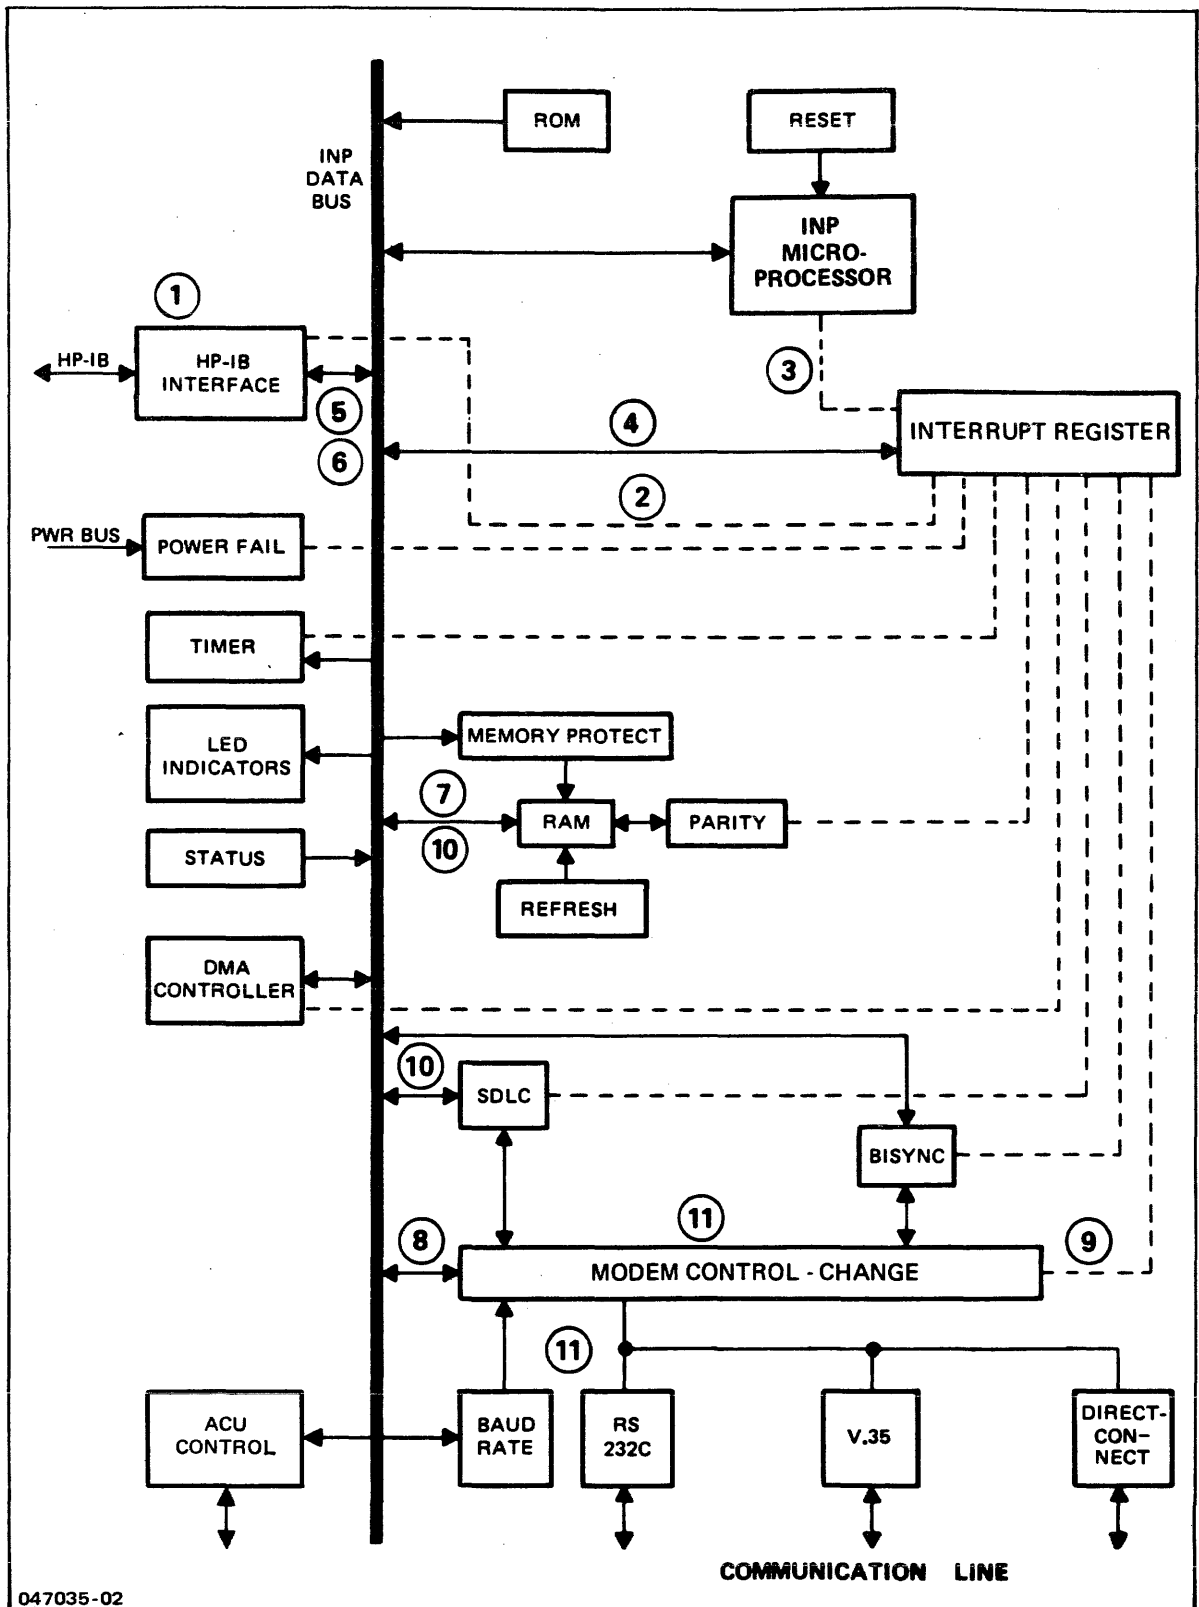

Figure 3-1. HP 30020B INP Block Diagram
A block diagram of INP organization of the major functional areas is shown in figure 3-1. The solid interconnecting lines in the block diagram represent data paths while the broken lines indicate service request paths.
In the following typical message transmission sequence, a modem telephone line is assumed as the communications medium. References are made to the functional areas, data paths, and service request paths within the block diagram in figure 3-1. The data paths and service request paths being referenced are identified in the diagram by circled numbers.
The flows from the HP 3000 into memory are represented by (6) and (7) in figure 3-1. Upon receiving a full block, the INP Microprocessor raises RTS, (8), and sets up an interrupt for when the modem returns CTS. When CTS becomes active, an interrupt is generated to the INP Microprocessor, (9). The INP Microprocessor then sends data from the INP RAM to the datacomm LSI devices, (10). The datacomm device that is being used serializes the data and sends it over the line, (11), effectively completing the initialization of data transmission.